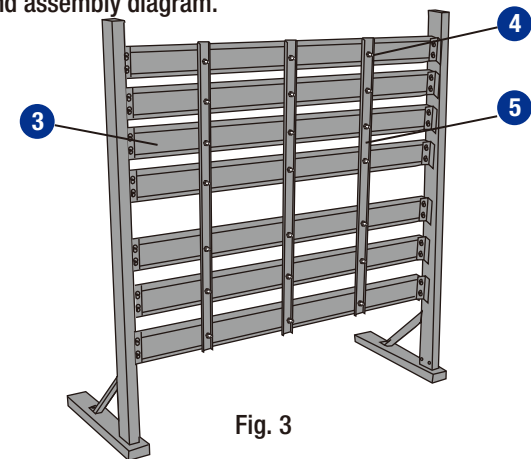

Fig. 3
Set the hanging bar support (5) so that it intersects all seven hanging bars (3) at the centre of each. Secure it in place with bolt (4), spring washer (8) and nut (6) as in Fig. 3 and assembly diagram.